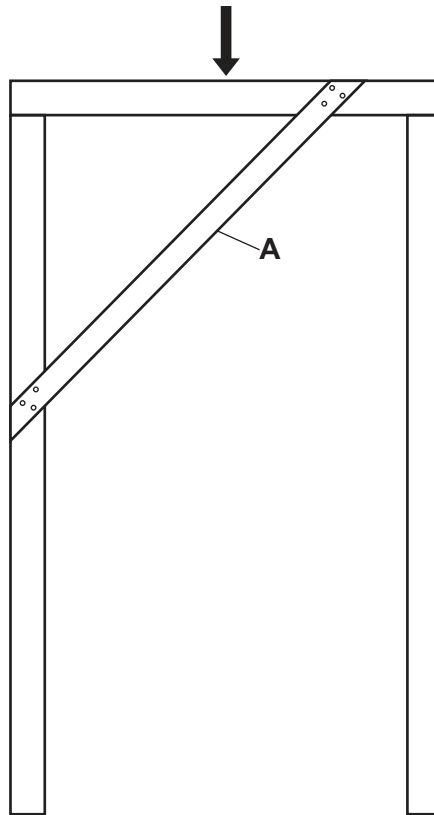

Fig. 1.1
- 1 Fig. 1.1 shows a wooden door frame ready to be placed in a building.